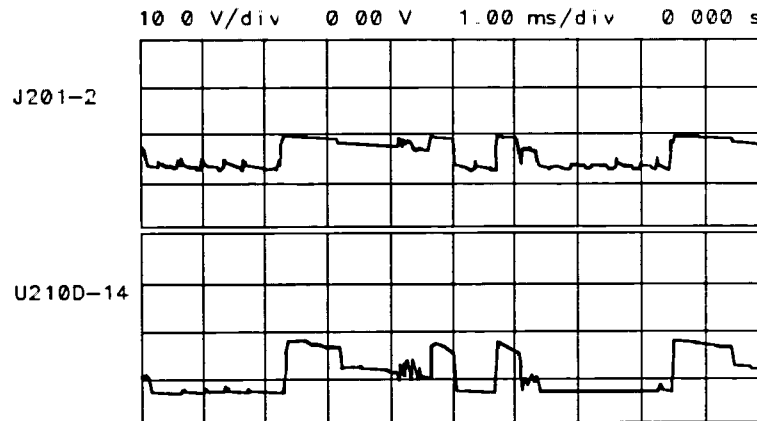

Figure 10-9. Delta X Waveform
5. The waveforms should look like those illustrated in Figure 10-9. If the waveform at J201 pin 2 is bad, troubleshoot the X Line Generator (Function Block D of the A2 Controller Schematic, sheet 2 of 5).